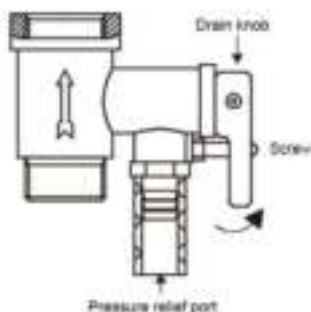

Рисунок 6
4. Screw the safety relief valve on the inlet nozzle, which is marked in blue and has a water flow direction arrow in such a way that the water flow coincides with the direction of the arrow on the valve body. Put the water drainage tube\* (water may appear during heating) on the pressure relief port of the safety relief valve to allow water drainage into the sewer (see Fig. 6) (the tube must be directed downwards and must not be bent).
6. To drain the internal tank, use the safety relief valve: unscrew the screw of drain knob on the safety relief valve and move the drain knob to the up position — the hot water outlet tap must be open and the cold water inlet tap must be closed (see Fig. 6). Water will start flowing from the pressure relief port of the safety relief valve.